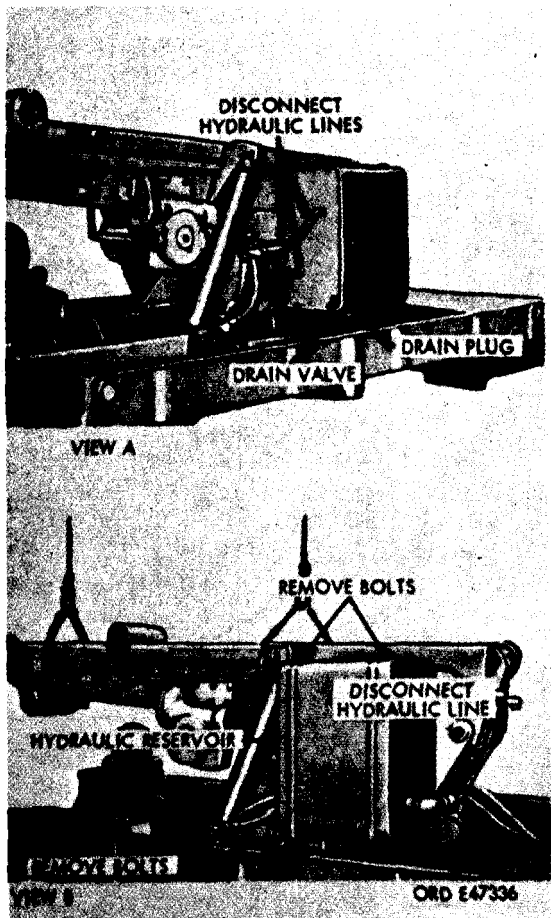

Figure 547. Hydraulic oil reservoir tank - removal and installation
- (1) Connect hose to drain valve (fig. 547, view A) and drain hydraulic oil from tank. Remove drain plug from bottom of tank to drain tank completely.
- (3) Remove bolts from tank straps (fig. 547, view B) and remove tank.